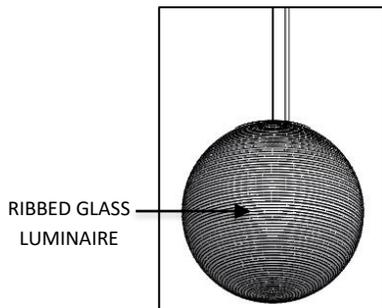

FIG.10 -RIBBED GLASS LUMINAIRE (PRE-ASSEMBLED)
5. Locate the RIBBED GLASS LUMINAIRE as shown in FIG. 10 and with multiple people raise up LUMINAIRE and pass the PREASSEMBLED AIRCRAFT CABLE through the GRIPLOCK in the CANOPY as shown in FIG.11.